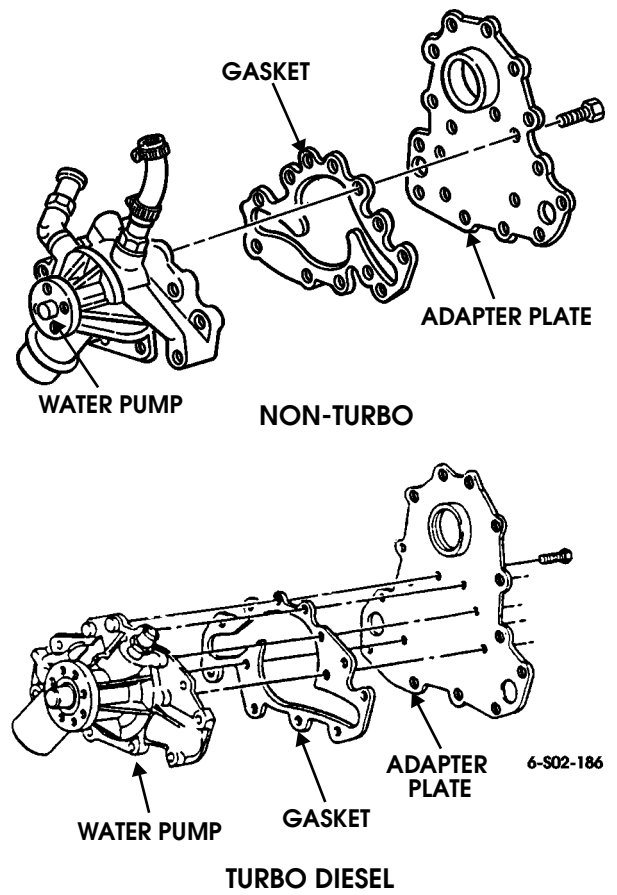

Figure 2-107: Water Pump, Adapter Plate, and Gasket Disassembly
3. Remove water pump, attaching bolts, and separate pump from adapter plate (Figure 2-107).